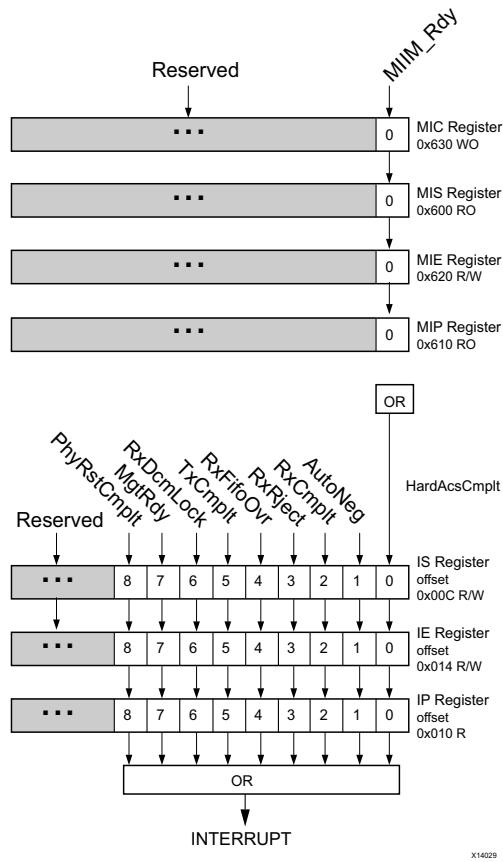

Figure 2-29: Subsystem Interrupt Structure
2. See Figure 2-29 for conditions that cause the receive frame reject interrupt to occur. The receive frame reject interrupt occurs for any of the following reasons: